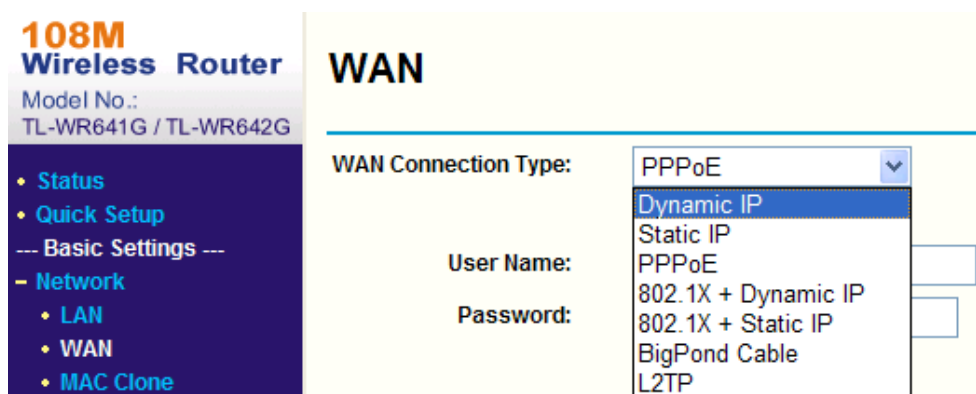

Figure 4.5.1 Select WAN Connection Type
Step1: Firstly, select the router's WAN connection type. As shown in Figure 4.5.1: